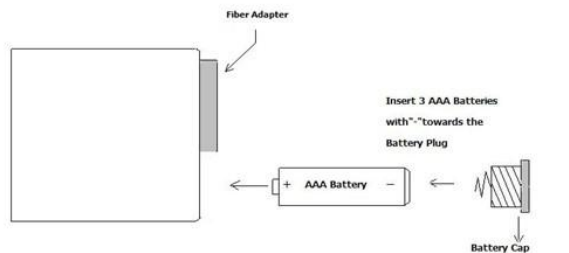

Figure 2
- 2) You'll need to insert 3 “AAA” batteries. Unscrew and remove the "Battery Cap". Insert the batteries with the "-" side up towards the Battery Plug; "+" side down towards the Light Switch (see Figure 2). Replace the Battery Cap and tighten.